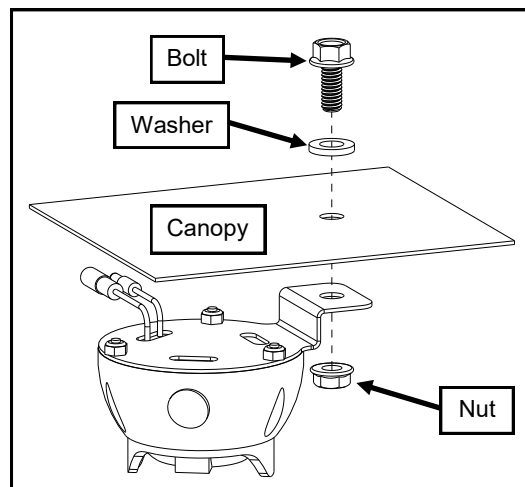

Fig. 6
12. Attach the dome light to the canopy with a 5/16-18 x 3/4" long bolt, nylon washer, and nut as shown in fig. 6.